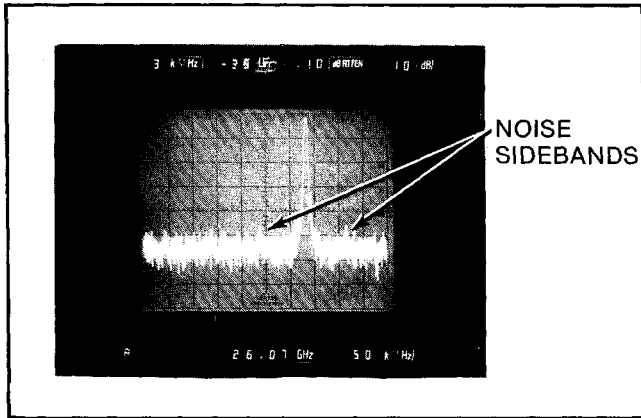

Figure 4-26. Noise Sidebands (>18.0 GHz)
(1) rotate PERSIST fully clockwise;
(2) press SWEEP TRIGGER-SINGLE.
(3) press ERASE;
(4) press SWEEP TRIGGER-START/RESTART;
(5) press STORE.
9. A trace similar to the one shown in Figure 4-26 should be obtained. Ensure that no sidebands are present 100 kHz (2 division) on either side of the carrier frequency.